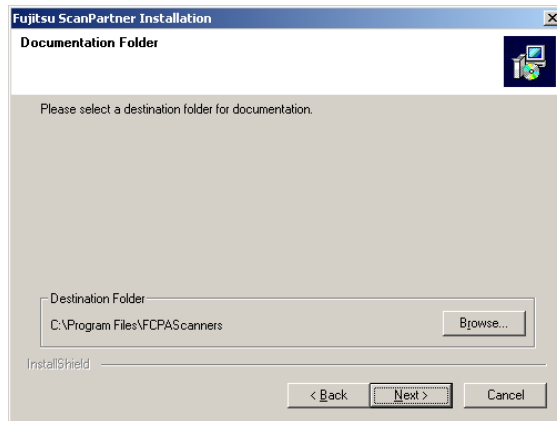

Figure 33. Confirm the Destination Folder
- 4 Choose the installation directory for the documentation, the **Start** menu location, and then confirm your installation option as shown in Figure 33.